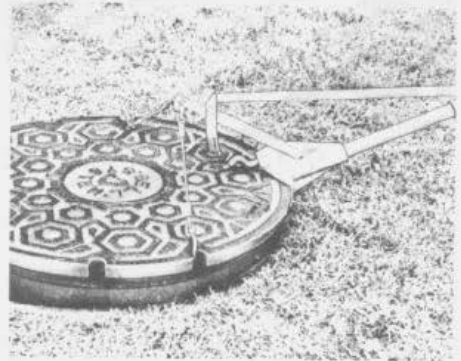
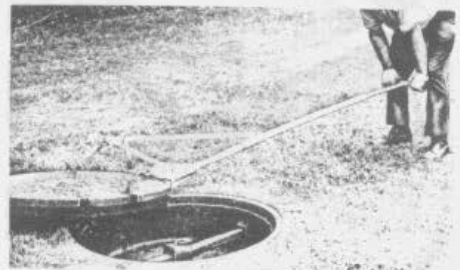

Fig. 23—Raising Cover Clear of Frame
Fig. 24—Rotating Cover Clear of Frame
- (4) Continue the downward pressure to raise the cover clear of the frame (Fig. 23). Maintain downward pressure and walk sideways to pivot the tool on its fulcrum and rotate the cover clear of the opening (Fig. 24).